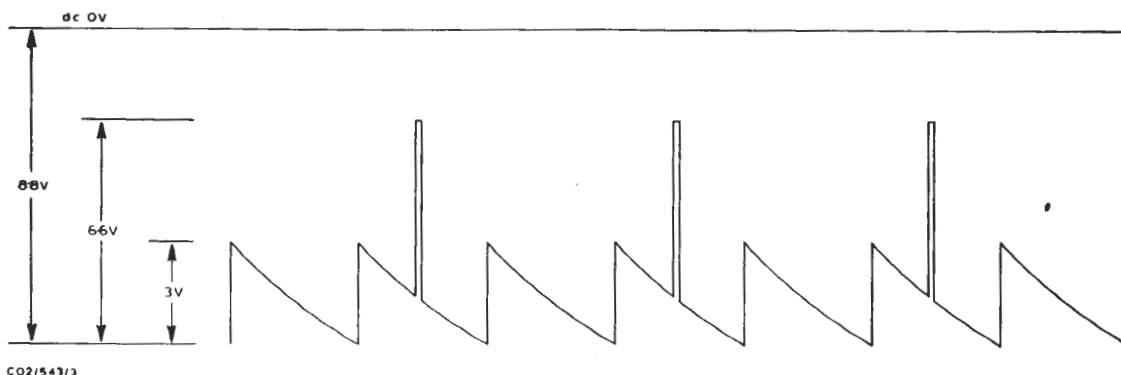

Fig. 3. Waveform at the Monitor Lock point
11. Connect the Oscilloscope Probe to the *Monitor Lock* point on the front panel of the OS1/516. The waveform displayed should be a sawtooth with a positive-going pulse on every other ramp, as shown in Fig. 3.